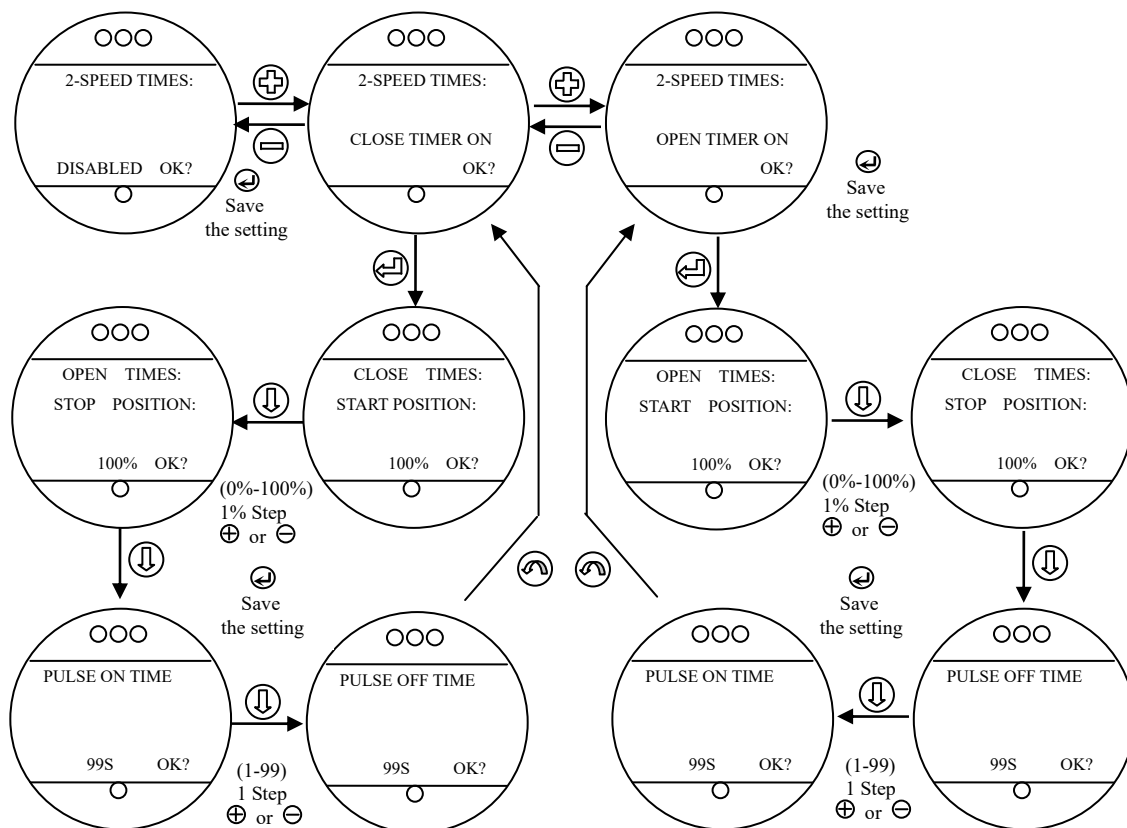

Fig. 4-12
1. Switch menu to “**ADVANCED CONTROL MODE: / 2-SPEED SETUP ?**”, see **Fig. 4-12**.